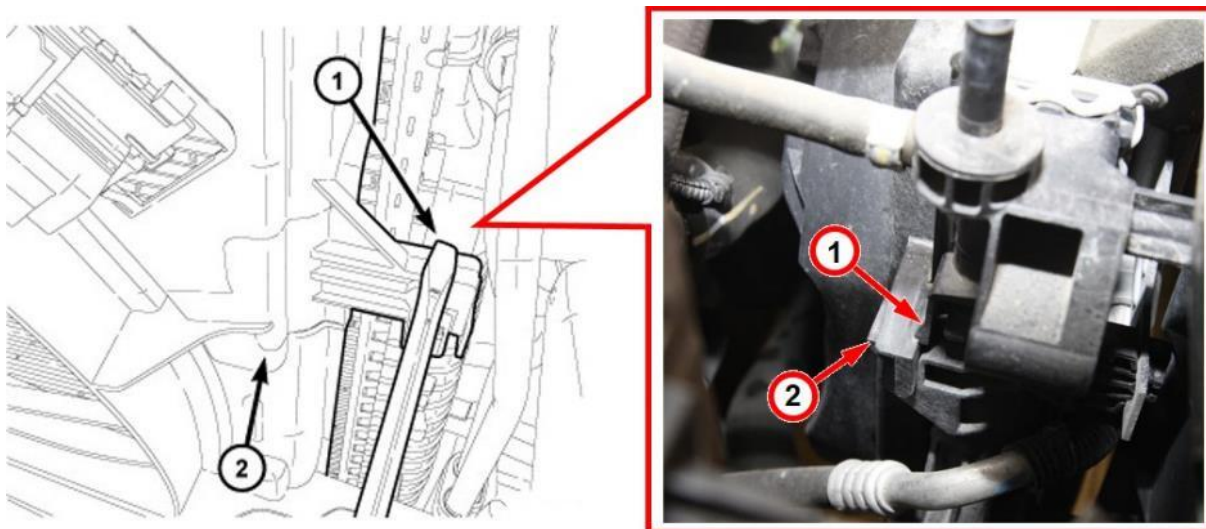

Figure 17 – Cooling Fan Module Mount Retaining Clip
15. From above or below as necessary for access, on each side of the cooling fan module, use a screwdriver or equivalent tool to depress the retaining clip (1) then lift upward to release the cooling fan module (2) from the mounts (Figure 17).
21. Position the cooling fan module (2) into the four mounting locations. Push the cooling fan module downward into the mounts and ensure to fully engage the two retaining clips (1) that are only present on the upper right side and upper left side cooling fan module mounts (Figure 17).